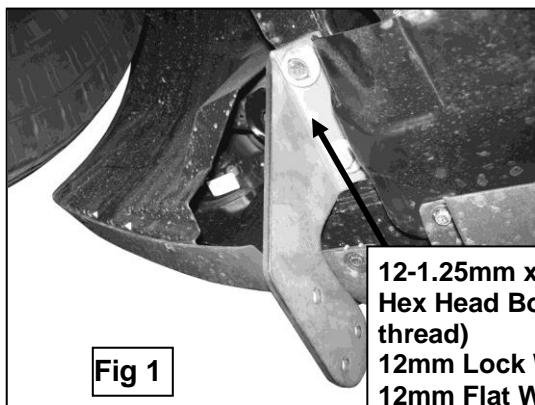

Fig 1
- Locate the driver side Mounting Bracket and partially hang it from factory threaded holes in the frame rail using the included (2) 12-1.25 x 40mm Hex Head Bolts (fine thread), (2) 12mm Lock Washers and (2) 12mm Flat Washers **(Figure 1)**. Repeat this step for the passenger side installation, (tow hook location). Snug but do not tighten hardware at this time.